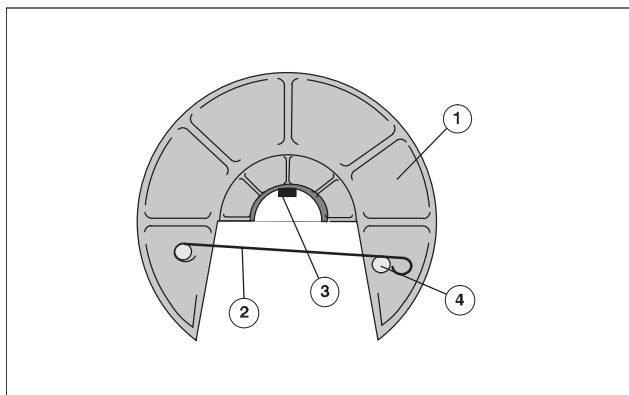
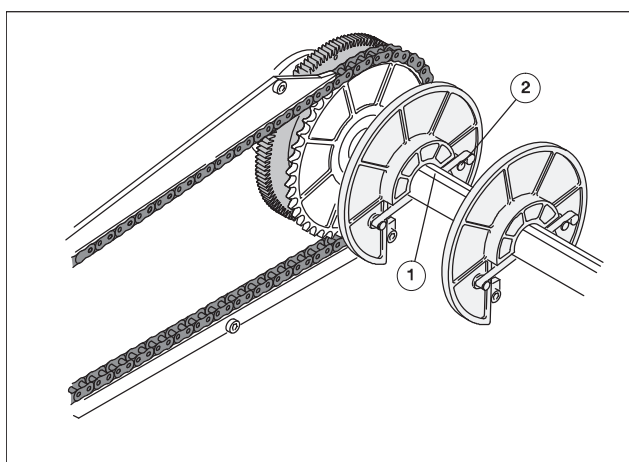

Fig. 10 Delivery drum guide pulley
Fig. 11 Delivery drum: shaft with guide pulleys
The standard delivery drum consists of the sprocket wheel shaft (Fig. 11/1), the lateral gears and the guide pulleys. The guide pulleys (Fig. 10/1) on the sprocket wheel shaft prevent the print sheet from collapsing. They must be placed in non-print areas. To prevent smearing of the fresh printing, an ink-resistant foil is attached to the contact area with the print sheet.
1. Inch the press until the groove in the sprocket wheel shaft (Fig. 11/1) faces upwards.
2. Attach the guide pulley so that the fitted piece (Fig. 10/3) lies in the groove of the sprocket wheel shaft (Fig. 11/1).
3. Place the spring clip (Fig. 10/2) at a slant under the sprocket wheel shaft press upwards.
4. Swivel the spring clip on the guide pulley and suspend on the bolt (Fig. 10/4).